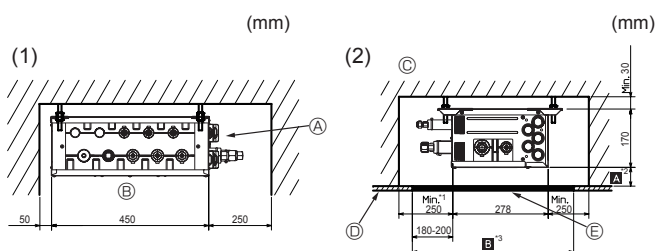
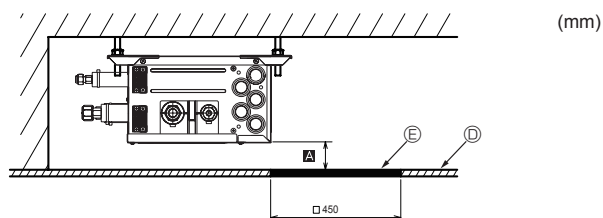
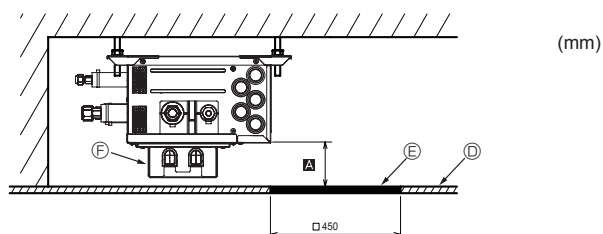

Fig. 4-7
Fig. 4-8
Fig. 4-9
- (A) Branch box
- (B) On the side of piping
- (2) Side View (Fig. 4-7, Fig. 4-8, Fig. 4-9)
- (C) For indoor installations
- (D) Ceiling board
- (E) Maintenance hole
- (F) Reactor Box (Optional parts)
To install the optional Reactor Box, set **A** to Min. 270 mm <recommendation> (Fig. 4-9).
In the case of “□ 450 mm”, prepare a maintenance hole at a PCB side (as it is shown in Fig. 4-8, Fig. 4-9), and “Min. 300 mm” is needed as distance **A**.